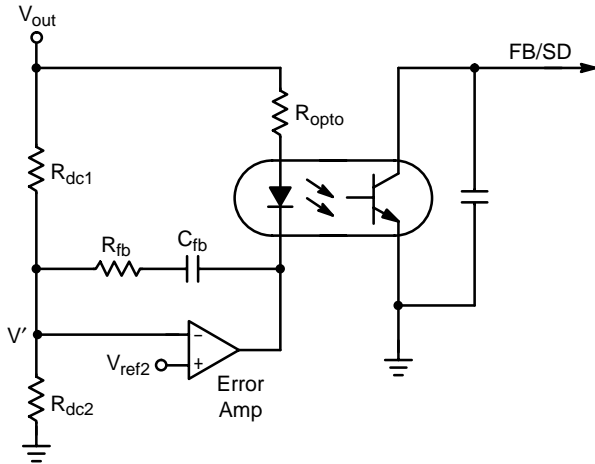

Figure 41. Error Amplifier Circuit
In the circuit of Figure 41, the amplifier and reference need to be rated at the maximum voltage that the output will experience, including transient conditions. Resistors  $R_{dc1}$  and  $R_{dc2}$  need to be chosen such that the voltage at  $V'$  is equal to  $V_{ref2}$  when  $V_{out}$  is at its regulated voltage.  $R_{opto}$  is a current limiting resistor that protects the optocoupler from current transients due to output surges.